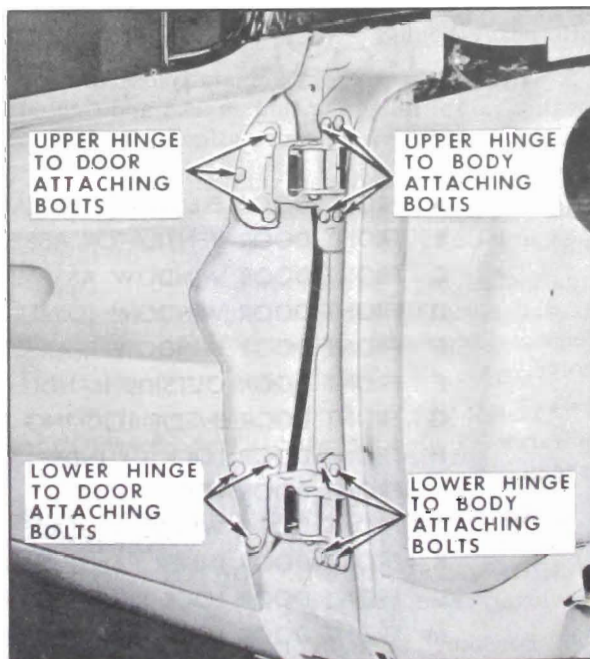

Figure 2-13—Door Hinge Attachment
5. With door properly supported, remove bolts securing upper and lower hinges to front body hinge pillar or door hinge pillar. Then with aid of helper remove door assembly from body (see Figure 2-13).
1. For in and out or up and down adjustments, loosen hinge to door pillar attaching bolts (see Figure 2-13). Adjust door as required and tighten bolts.
**NOTE:** When performing in and out adjustments, adjust one (1) hinge at a time so as not to lose up and down adjustment.
2. To adjust door fore or aft, loosen hinge to body pillar attaching bolts (see Figure 2-13). Adjust door as required and tighten bolts.